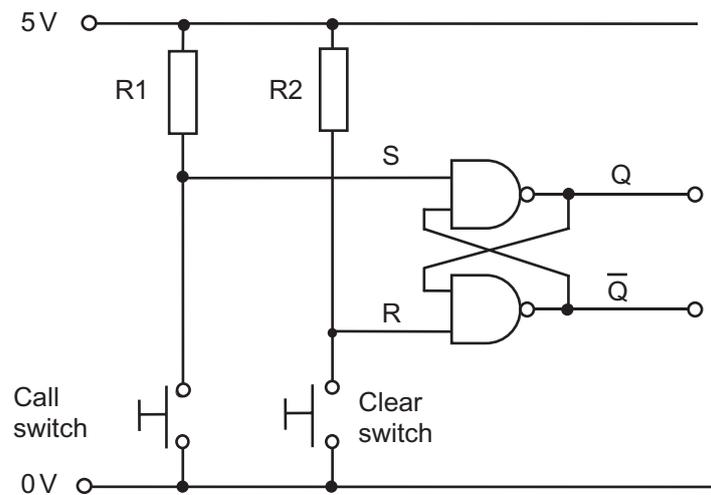

Fig. 10(a)
- 10 Fig. 10(a) shows a logic circuit which uses switches as inputs and has 2 outputs. The circuit forms part of a supermarket call system where the till operator can “call” for assistance by pressing a switch. The system can be “cleared” by pressing a second switch.
- (a) (i) Name the arrangement of gates shown in Fig. 10(a). [1]